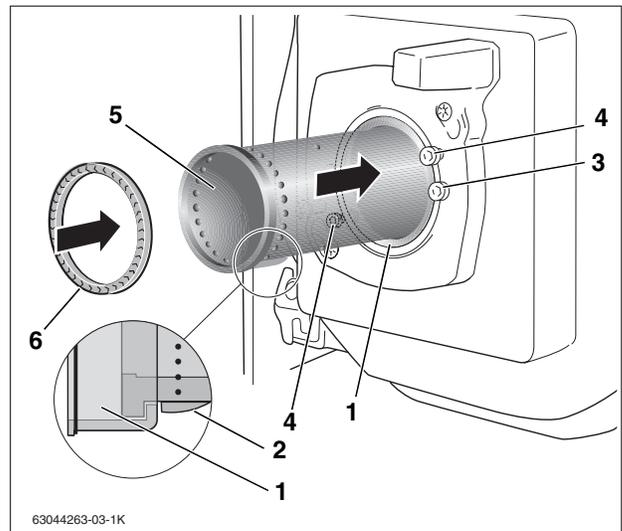

Fig 30 Replacing the burner tube
- Place the new burner tube into the locking collar (Fig. 30, **Item. 5**). Slide the burner tube past the lip (Fig. 30, **Item. 2**) and engage the tube with the locking collar. The lip of the burner tube must point downward and must be engaged (Fig. 30, detail).
- Use a new burner tube gasket (Fig. 30, **Item. 6**).
- Always replace the gasket (Fig. 30, page 29) between the mixing system/diffuser plate and burner tube prior to burner re-installation.
- Place gasket in burner tube (Fig. 30, page 29).
- Return burner in its position in the door on both bolts (Fig. 30, page 29).
- Turn counter-clockwise until stop and tighten with mounting screws (Fig. 30, page 29).